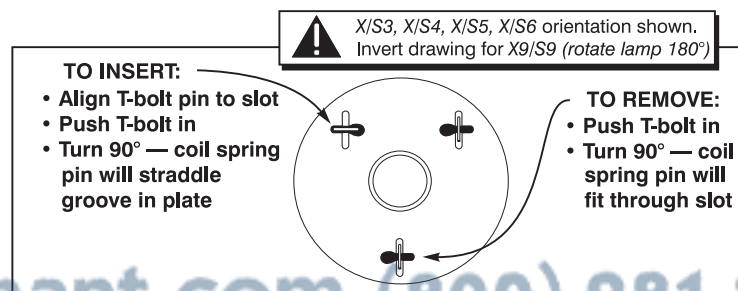

Figure 4.7. Using the T-bolts
- Push the lamp all the way back and make sure the pin on each T-bolt aligns with its slot on the alignment plate—slowly turn each until the clearance slot is located. Then push and turn each T-bolt **90°** to lock. See Figure 4.7.